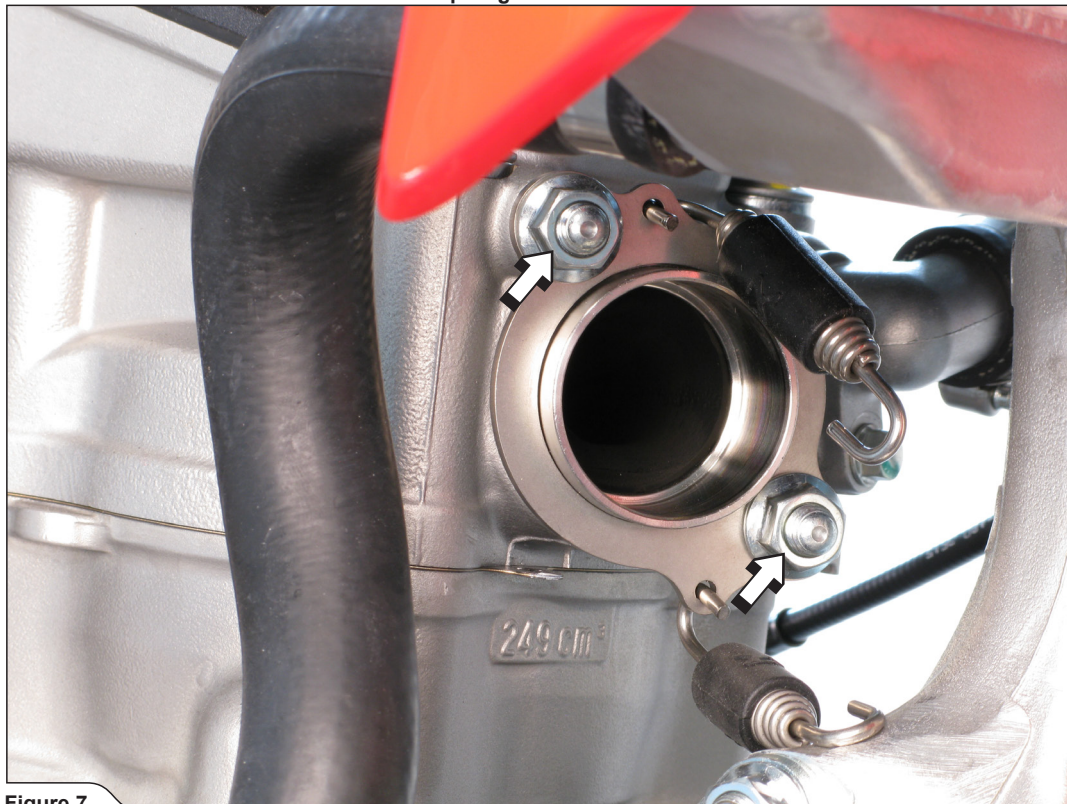

Figure 7
2. Set up and hand tighten the flange together with the springs and sleeve onto the cylinder head, using stock nuts; make sure you orient the flanges and springs as shown (Figure 7).